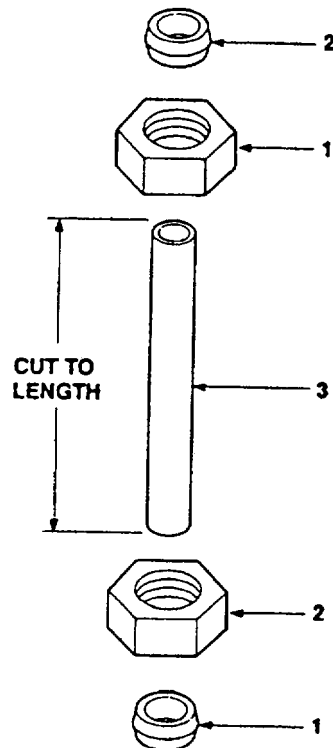

Figure F-4. Hose Assembly.
- a. Refer to Figure F-4 and TM 10-4320-343-24P and obtain materials.